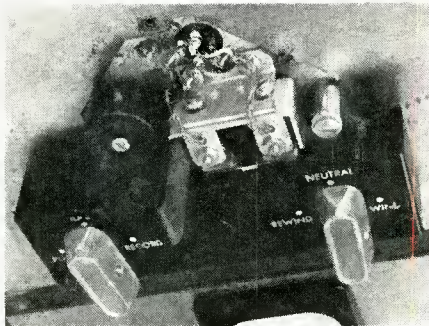
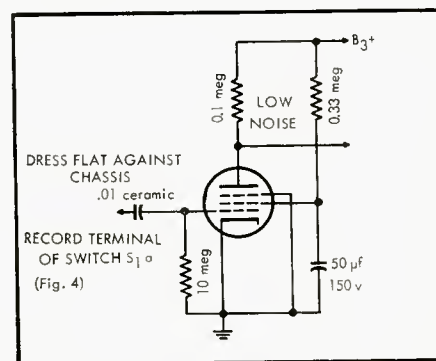

Fig. 13. Silicon-steel shield warps hum field near record-play head sufficiently to account for a hum reduction of approximately 6 db.
Fig. 14. Alternative input circuit—abandoned because of increased distortion.
mum. Figure 13 is a closeup of the shield employed. It consists of a thin piece of silicon steel about  $\frac{3}{4}$  in. wide and 2 in. long after being bent double. The shield is alongside the playback head and clamps like a hairpin onto the bracket that holds the heads and guides the tape. The silicon steel is an I-plate from a power transformer—the same transformer that was converted into a bulk eraser by removing the I-plates and facing the E plates one way.
12. *Input Grid Circuit.* The  $V_1$  input grid circuit shown in Fig. 4 is different from the one originally contemplated which is shown in Fig. 14. The advantage of using the circuit in Fig. 14 is that the hum-bucking pot has greater effect, permitting another 2 or 3 db of hum reduction. The disadvantage which led to its rejection, however, is that it produces considerably more distortion. On the other hand, this difference in distortion may be considered academic by some, wherefore it is felt that the discarded circuit merits mention.
As pointed out in the section on specifications, the circuit of Fig. 4 can accommodate as much as 50 mv input with less than 1 per cent IM distortion and as much as 100 mv with only 1.5 per cent IM. However, the circuit of Fig. 13 produces 2 per cent IM at only 12 mv input, 3 per cent at 15 mv, 4 per cent at 20 mv, 8 per cent at 40 mv, and so on up. On the other hand, this circuit produces but 1.4 per cent IM at 10 mv, and at 5 mv distortion is down to 0.3 per cent. Thus, within the normal range of voltage output from a playback head, which is usually below 5 mv, the circuit of Fig. 14 would produce imperceptible distortion. Even on peaks, where amplifier IM distortion might reach 1.5 or 2 per cent, this amount would be relatively small compared with 8 per cent or more IM from the tape itself.
Yet, despite its potentialities for less hum, the circuit of Fig. 14 was abandoned because it crowds the margin of safety too much with respect to distortion. Although it can doubtless provide satisfactory results with regular tape, trouble may arise when using high-output tape, which results in greater voltage output from the head. Moreover, it is quite possible that continued advances in the art of tape manufacture will produce tapes with substantially higher output than now available.
In going to the input circuit of  $V_1$ , careful consideration had to be given to the value of the cathode resistor,  $R_4$ . Too high a value not only reduces gain but, more important, lessens the effect of the hum-bucking pot. As already indicated in the discussion concerning Fig. 14, hum-bucking effect was greatest when cathode resistance was smallest; i.e., zero.